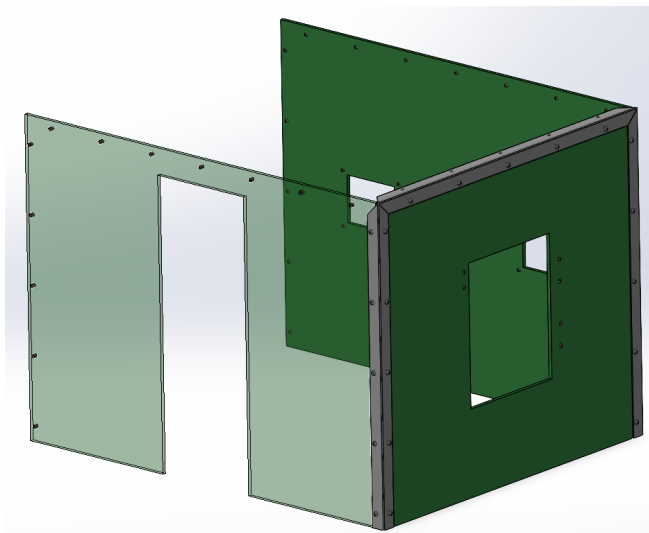

Fig. 8. Left and right acrylic installed onto the chamber assembly.
2. Screw the left and right acrylic on their corresponding sides to the aluminum trim, see Fig. 8.